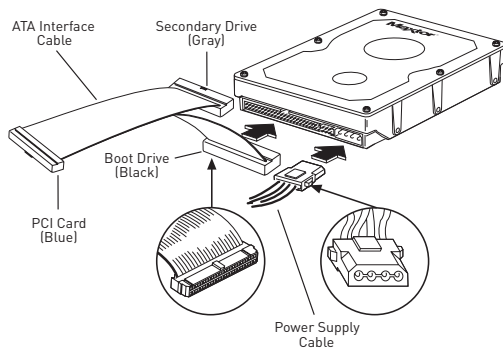

FIGURE 8
3. Plug the black cable connector into the ATA connector on the rear of the hard drive. If you are connecting two Ultra ATA drives and wish to use one as a boot drive, plug the black cable connector into the boot drive and the gray connector into the other drive. If neither drive will be used as a boot drive, either the gray or black connector can be used. See Figure 8 below.